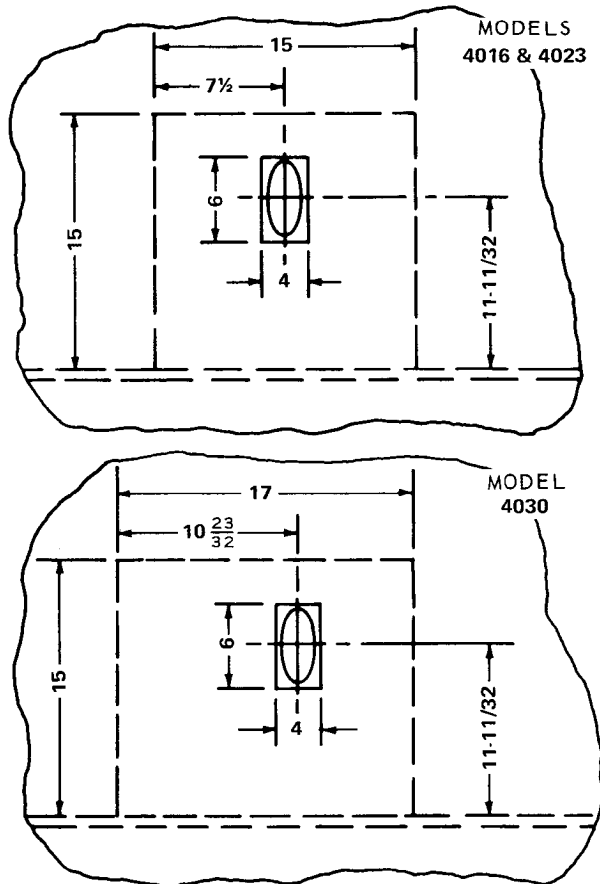

Figure 5
2. Refer to Figure 5 and cut a 4" x 6" opening through the inner and outer walls of the vehicle.